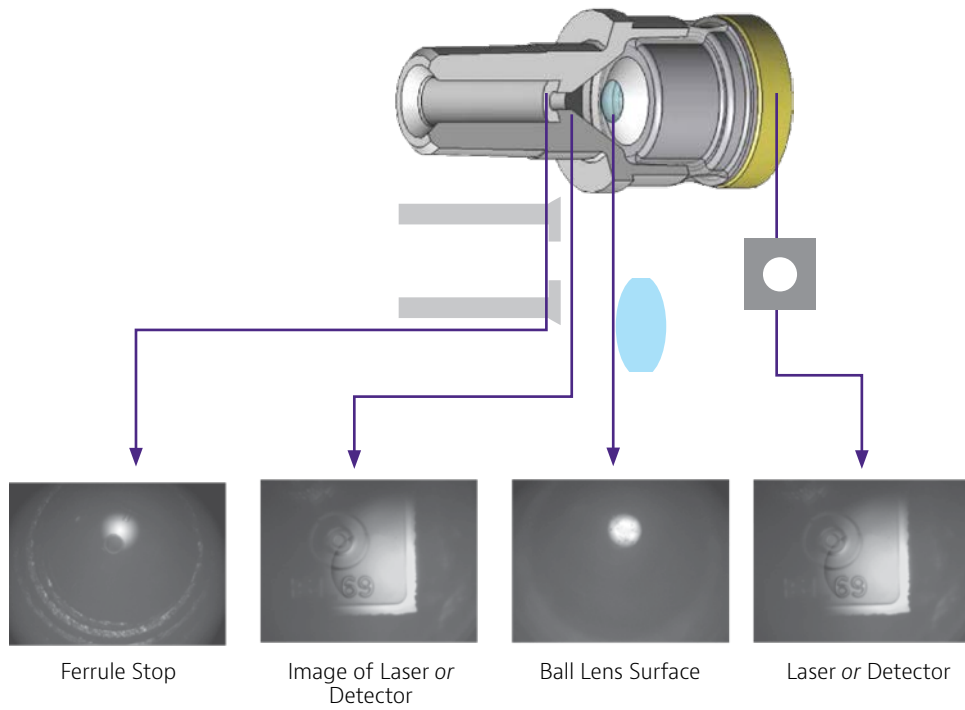

Figure 10. Example views of the Elements within Non-Contact Type Transceivers
4. Depending on the type of the lens interface being inspected, different features will come into view – see Figures 10 and 11.